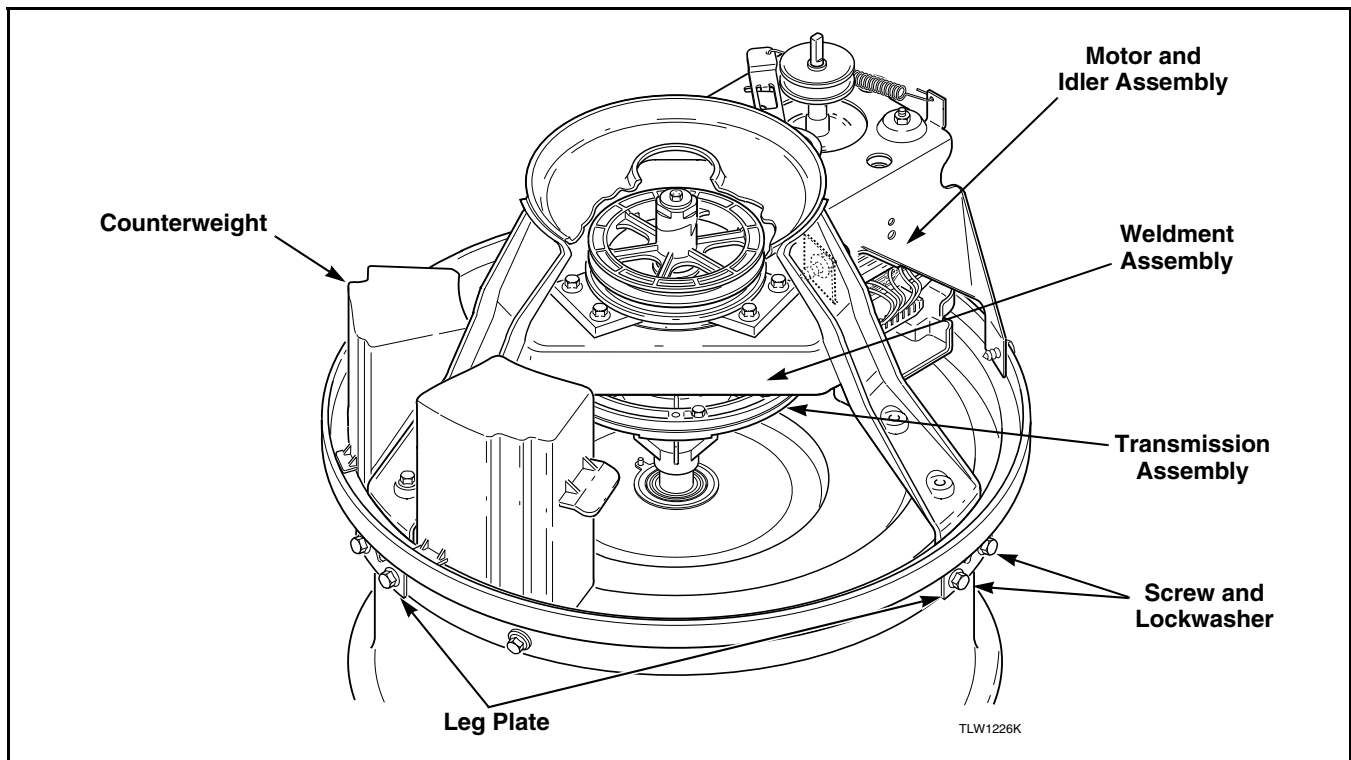

Figure 48
- Remove screws and washers holding transmission assembly and weldment assembly to outer tub, counterweight and motor. Refer to *Figure 48*.
IMPORTANT: To prevent porcelain damage, leg plates must be installed on outside of outer tub flange when reinstalling support legs of weldment assembly. Refer to Figure 48. Torque screws holding outer tub and motor to weldment assembly between 90 and 130 inch-pounds (10.30 to 14.87 Nm). Torque screws holding counterweight to weldment assembly between 60 and 100 inch-pounds (6.86 to 11.44 Nm).